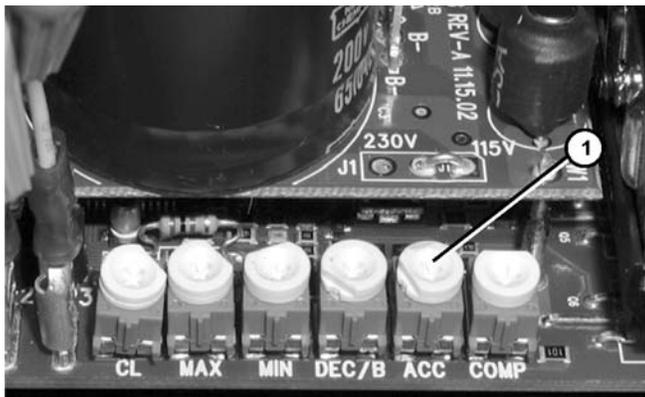

Figure 60
1. Turn counter clockwise (**Figure 60, item 1**) to reduce the time it takes to ramp up to speed. For more details please refer to Bodine's Instructions for Installation and Operation Manual section Adjust Trim Pots.